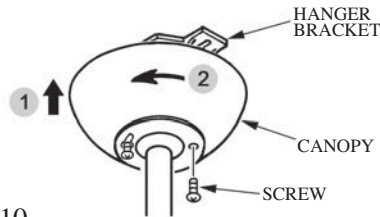

FIG. 10
4. Mount the canopy on the two screws in the hanger bracket and twist the canopy, so the screw heads hold the canopy in place. (see Fig.10)